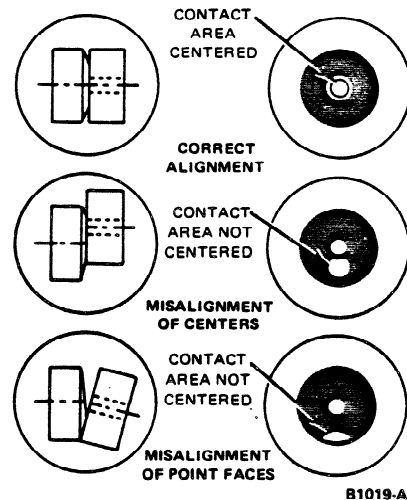

FIG. 8 Checking Breaker Point Alignment
1. Turn the cam so that the breaker points are closed and check the alignment of the points (Figure 8).